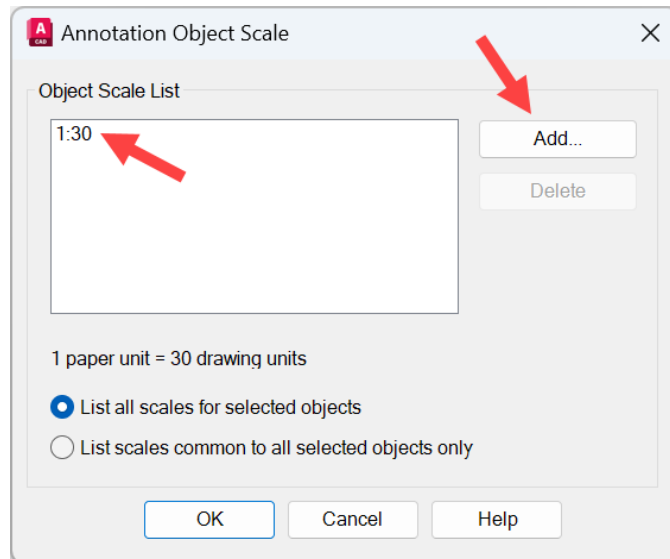

Figure 8.30: The Annotation Object Scale dialog box
5. The **Annotation Object Scale** dialog box is displayed, as shown in *Figure 8.30*. You will notice that the only annotation scale applied to the annotative text is the **1:30** scale. Click on the **Add...** button: